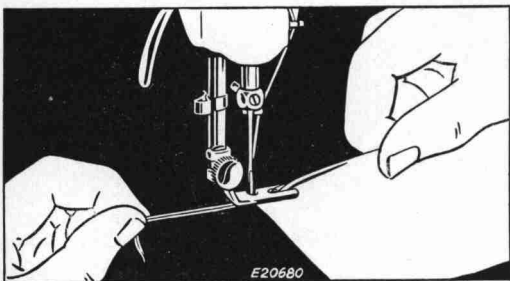

FIG. 36. STARTING HEM AT VERY END OF MATERIAL
- (1) Fold edge of material twice, about  $\frac{1}{8}$  inch each time, for a distance of about two inches. Crease folds.
- (2) Lay about three inches of needle and bobbin threads back under hemmer. Place creased edge of material under hemmer with end of hem directly under needle. Lower hemmer and tack end of hem with two machine stitches.
(3) Raise hemmer. Pull threads and hem slightly from you with left hand, then while holding threads, draw material toward you with right hand into scroll of hemmer until tacked end is caught in hemmer, as shown in **Fig. 36.**